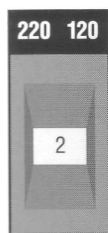

Figure 13
On Sinar Rollfilm Holders 6 x 9 cm and 6 x 7 cm, the number of exposed pictures can be read directly in the film metering window (7) (Figure 13).